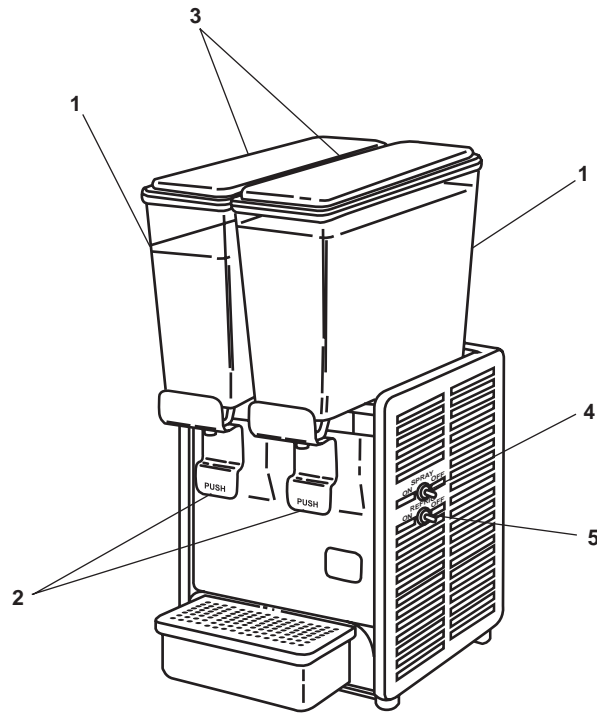

Figure 20. Beverage Dispenser
- (1) Place the bowl (figure 20, item 1) upside down on the counter.
- (2) Place the bowl gasket over the neck of the large opening on the bottom of the bowl (figure 20, item 1).
- (3) Place the bowl (figure 20, item 1) right side up, with the bowl gasket centered on the cooling plate and the guide pin.
- (4) Grasp the bowl (figure 20, item 1) by opposite corners and with downward pressure and twisting motion, set the bowl (figure 20, item 1) into position.
- (1) Place the handle (figure 20, item 2) in the two "V" notches in front of the handle bracket.
- (2) While holding the handle in place and pushed back, lower the valve down through the valve hole and through the hole in the handle (figure 20, item 2).
- (3) When the valve is seated on the O-ring, release the handle.
- (4) Push the handle (figure 20, item 2) in and release it several times to make sure that the valve moves up and down freely.
- (5) To seat the O-ring, press down on the valve and twist.
- (1) Fill the bowl (figure 20, item 1) with the desired beverage.
- (2) Install the cover (figure 20, item 3).
- (3) Set the SPRAY switch (figure 20, item 4) to the 1/ON position.
- (4) Set the REFRIG. switch (figure 20, item 5) to the 1/ON position.
- a. Place a glass against the handle (figure 20, item 2).
- b. Press the handle (figure 20, item 2) rearward to dispense the beverage. Release the handle (figure 20, item 2) when the glass has been filled to the desired level.
- a. Set the SPRAY switch (figure 20, item 4) to the O/OFF position.
- b. Set the REFRIG. switch (figure 20, item 5) to the OFF position.